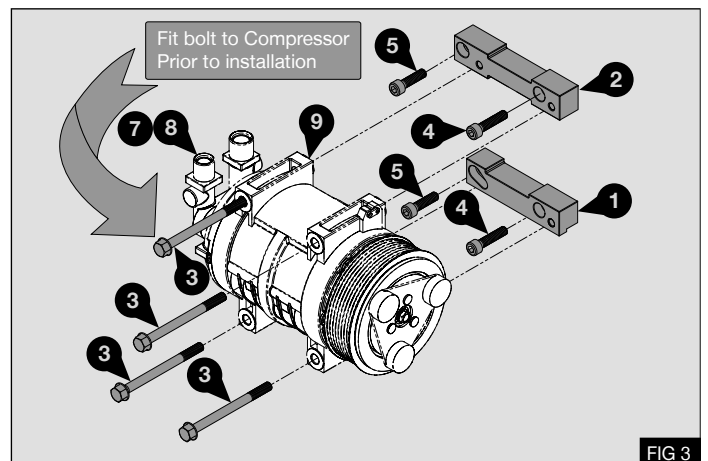

FIG 3
1. Fasten the manifold **(7)** to the compressor using the M10 x 25 socket head bolt **(8)** - Fig 3
3. Fit the supplied compressor mountings **(1)** & **(2)** to the original mount bracket **(F)** using the supplied cap screws **(4)** M8 x 35 to the front and **(5)** M8 x 30 to the rear - Fig 3
5. Fit the compressor **(8)** using the supplied bolts **(3)** M8 x 100 - Fig 3